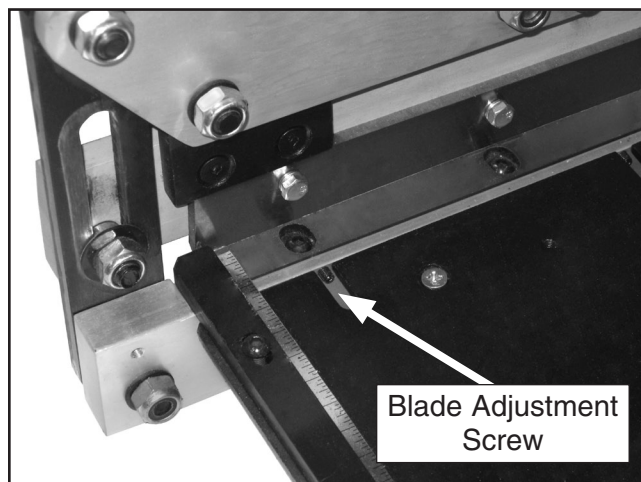

**Figure 7.** Blade adjustment.
2. Loosen, but do not remove the four blade cap screws (**Figure 7**).